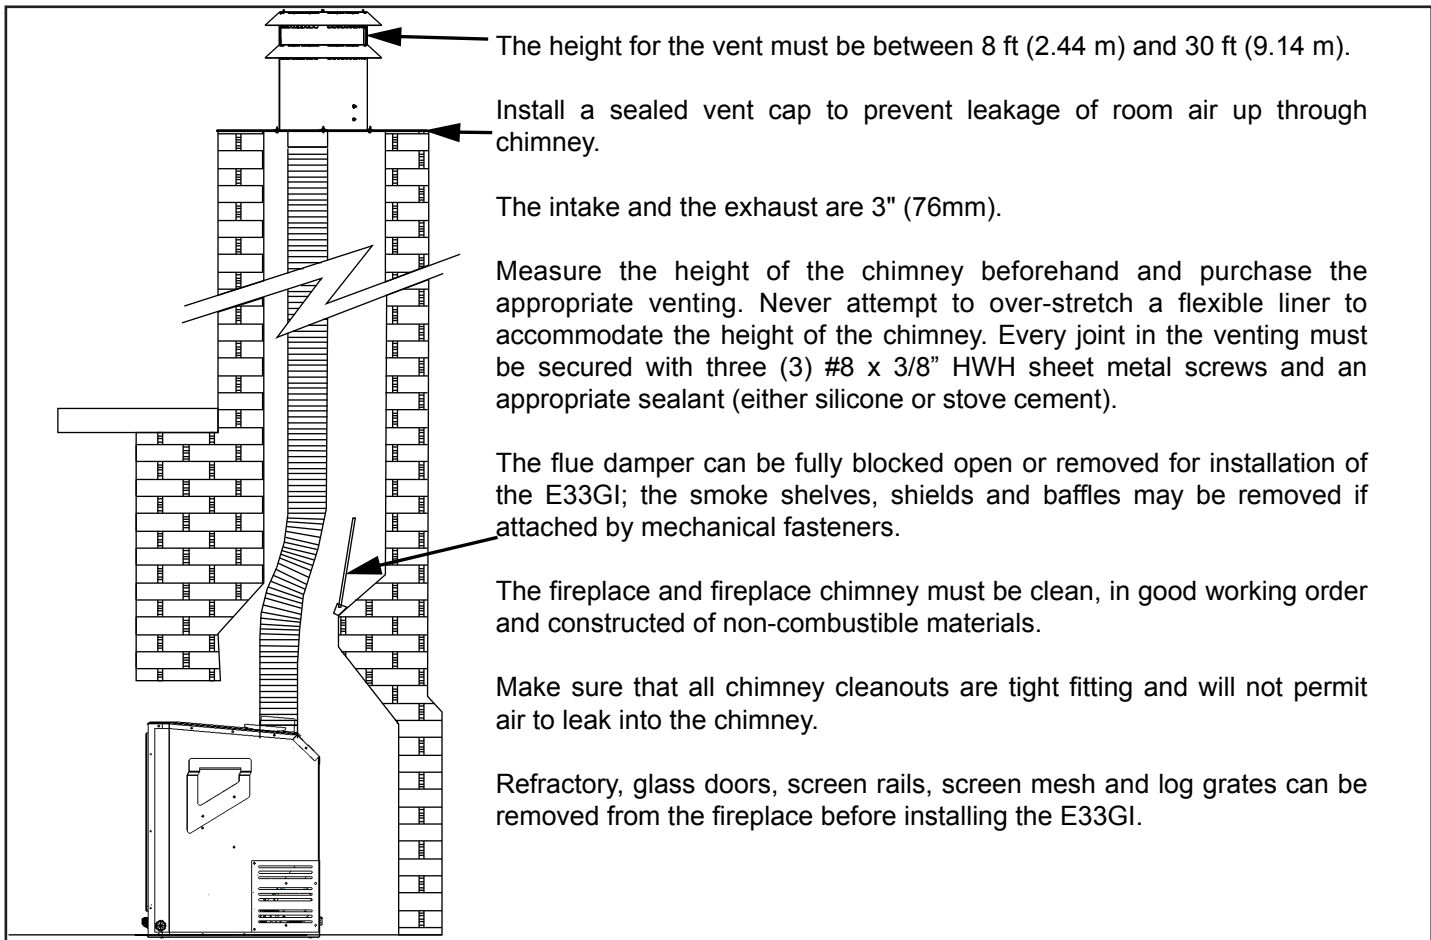

Figure 25: Installation of E33GI DV .
1. Plan your installation and clearances to combustibles. The E33GI may be installed and vented into any solid fuel fireplace that has been installed in accordance with the National, Provincial/State and local building codes and has been constructed of non-combustible materials. Also refer to the INITIAL INSTALLATION - PREPARING YOUR E33GI FOR INSTALLATION and CLEARANCES TO COMBUSTIBLES sections. Refer to Figure 25 throughout installation.